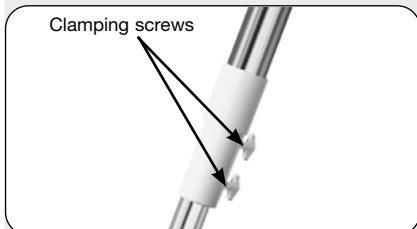

Fig 12 Adjust the height of the tripod legs and tighten the clamping screws.
13. Adjusting the tripod height: Adjust the tripod by loosening the locking screws (Fig 12) on the tripod. Then pull the inner tripod legs to the desired length. Then tighten the screws again. Adjust the tripod to a height that makes observing as comfortable as possible.